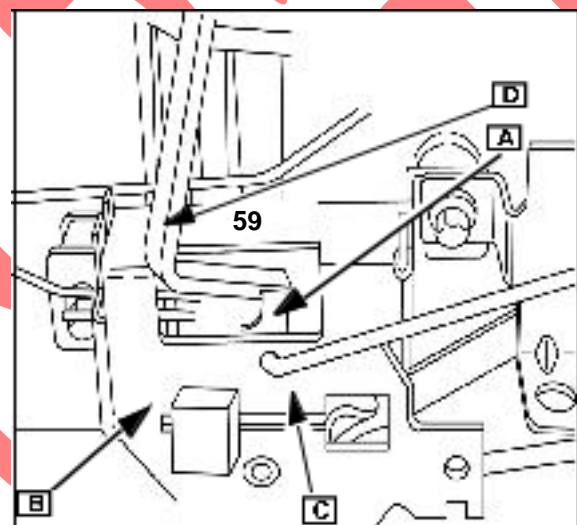
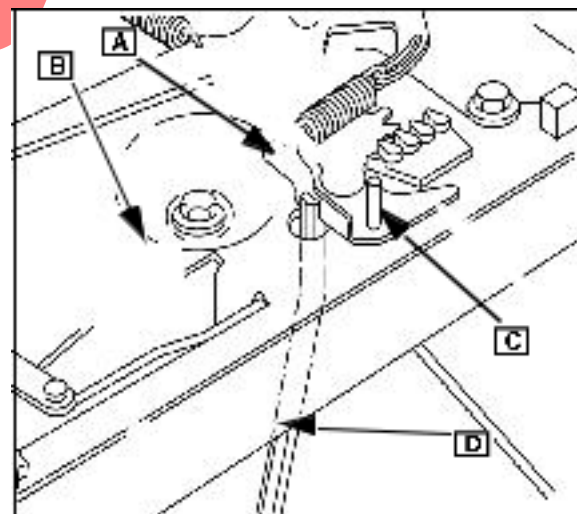

Fig. 37
Fig. 38
Align holes in the governor control lever gear (A) and governor control plate (B) Fig. 37 or Fig. 38).
Insert 0.125 in. (3.2 mm) diameter rod (C) Fig. 37 or Fig. 38).